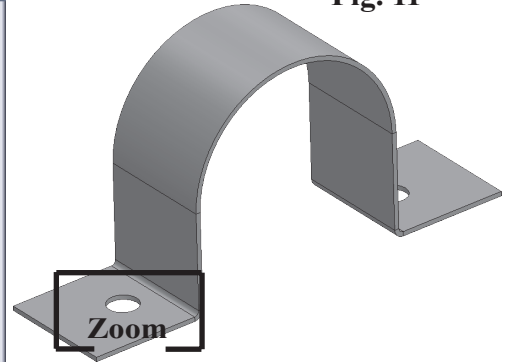

Fig. 13
click OK , **Fig. 13**.
Step 1. Zoom in around **front hole in Motor Mount, Fig. 13**. To zoom, place the cursor over the hole and spin the wheel on mouse back. While spinning the wheel keep cursor on hole.